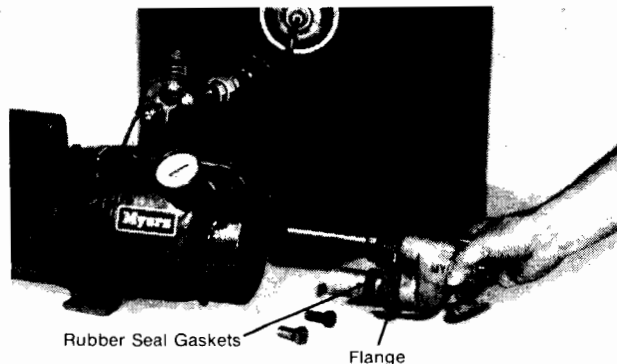

Figure 2
2. With shallow well package only, a $2\frac{1}{2}$ " galvanized nipple, threaded one end, is supplied for connecting to ejector. Where a deep well package is used for shallow well service it will be necessary to make this nipple. If this nipple is wrench cut, file cuts smooth before installing rubber seal ring. (See Fig. 2). Use only **EJECTOR PACKAGES WITH GREEN LABELS**. Use only ejector packages specified for HC.